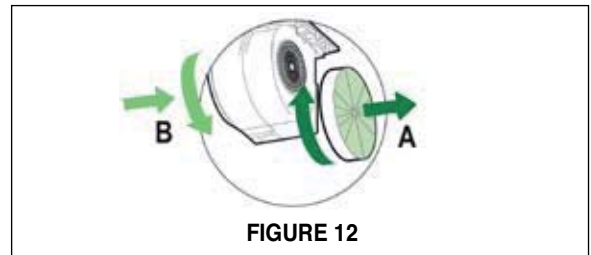

FIGURE 12
3. Attach the CHARCOAL FILTERS to both sides of the blower (as indicated in **FIGURE 12**).